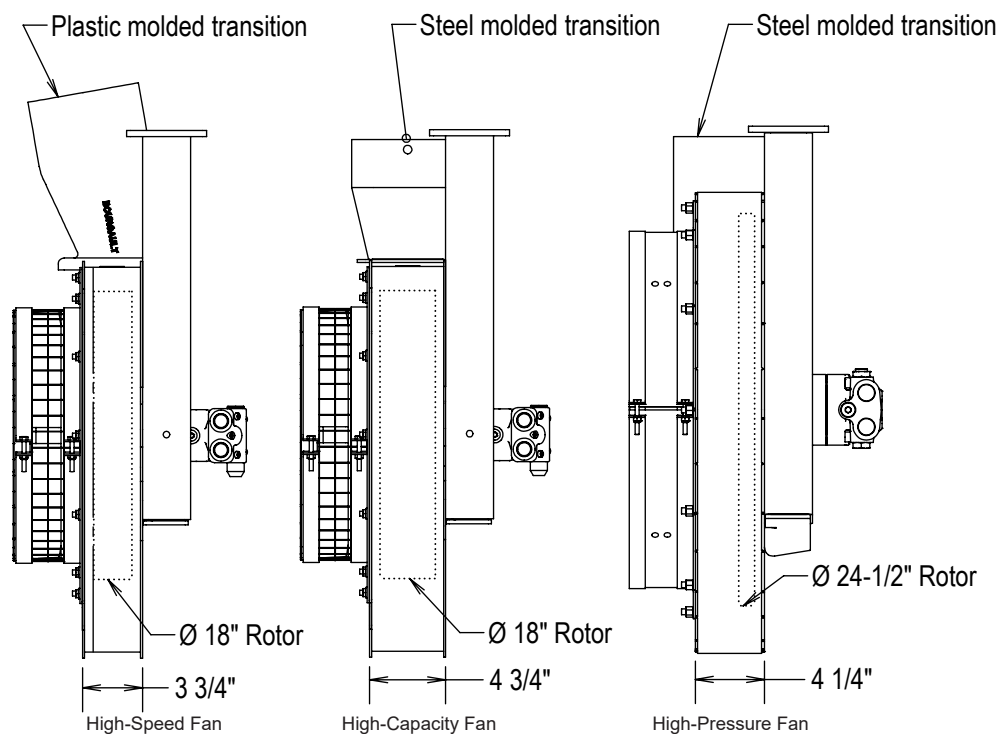

Figure 1.2 - Fan Identification
5. There are 3 methods to distinguish between the High-Speed, High-Capacity, and High-Pressure fans. Refer to *Figure 1.2*.